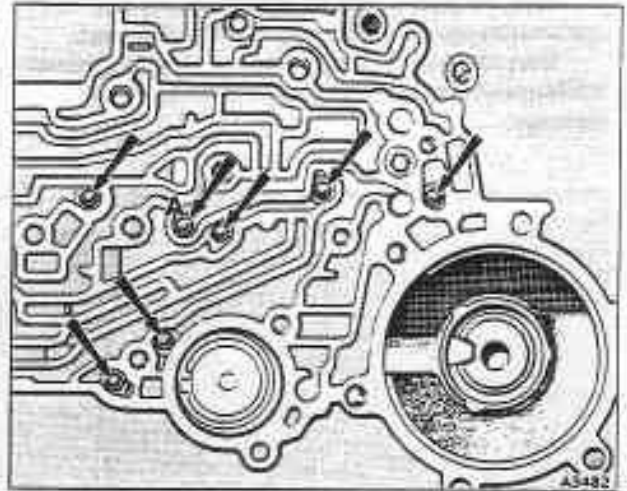

Fig. T15-1 Location of check balls – transmission case
7. Remove the six check balls (seven on 1988 and 1989 model year cars) from the cored passages in the transmission case (see fig. T15-1).